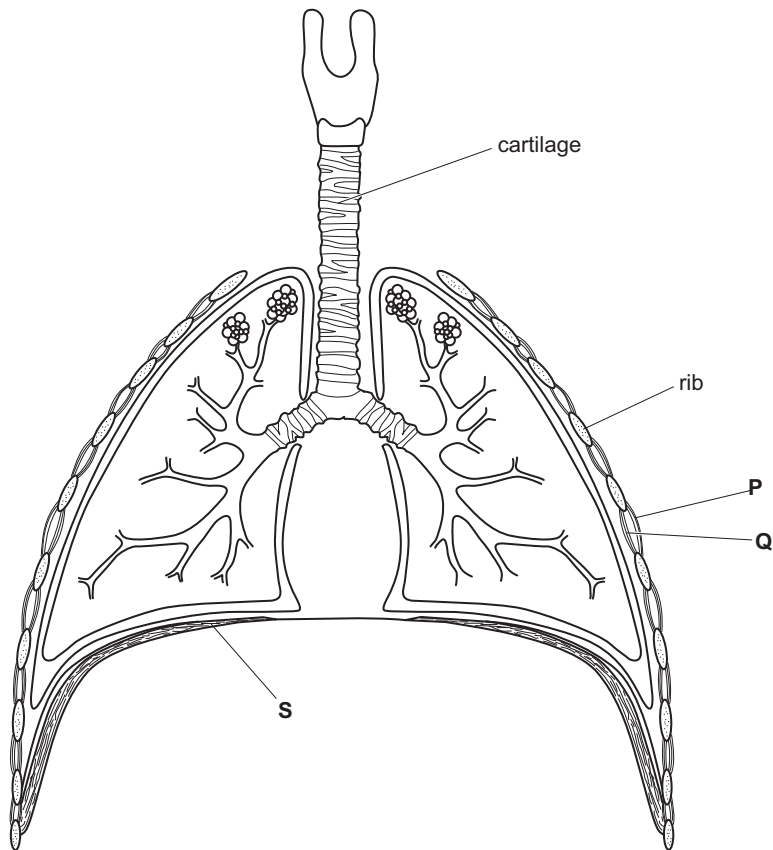

Fig. 2.1
- (b) Fig. 2.1 is a diagram of the human breathing system.
- (i) Three muscles involved in inspiration are labelled **P**, **Q** and **S** in Fig. 2.1.
Identify the letters in Fig. 2.1 that label the muscles which contract during inspiration.